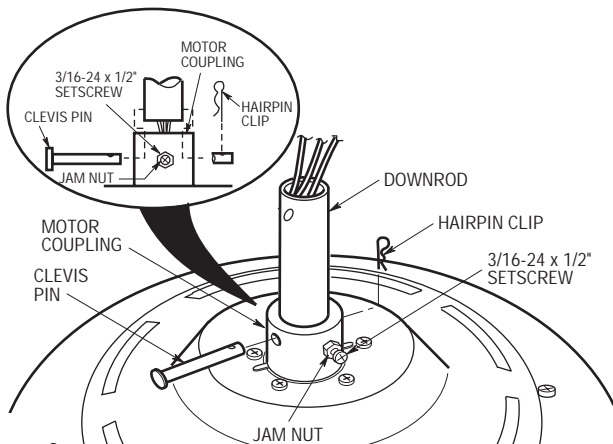

Figure 2
2. Separate, untwist and unkink the three 80" motor leads. Route the motor lead wires through the downrod. Align the clevis pin holes in the downrod with the holes in the motor coupling. Install the clevis pin and secure with the hairpin clip (Figure 2). The clevis pin must go through the holes in the motor coupling and the holes in the downrod. Be sure to push the straight leg of the hairpin clip through the hole near the end of the clevis pin until the curved portion of the hairpin clip snaps around the clevis pin. The hairpin clip must be properly installed to prevent the clevis pin from working loose. Pull on the downrod to make sure the clevis pin is properly installed.
It is critical that the clevis pin in the motor coupling is properly installed and the setscrew securely tightened. Failure to verify that the pin and setscrew are properly installed (as shown in Figure 2) could result in the fan falling.
3. Back off the jam nut until it rests loosely against the setscrew head. Install the setscrew in the motor coupling (Figure 2) and tighten securely while pulling up on the downrod. Using a 5/16-inch open end wrench or pliers, tighten the jam nut securely against the motor coupling.